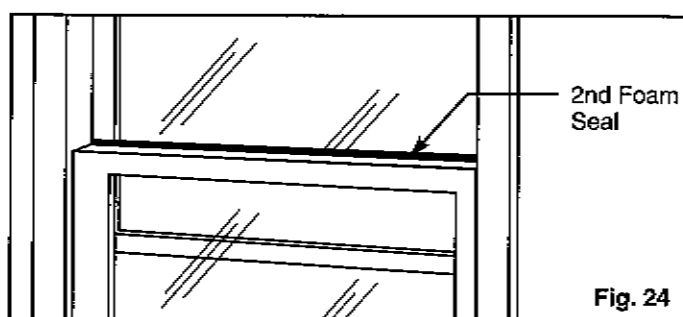

Fig. 24
- Cut the **second foam seal** to fit the opening between the top of the inside and outside window. (Fig. 24.)